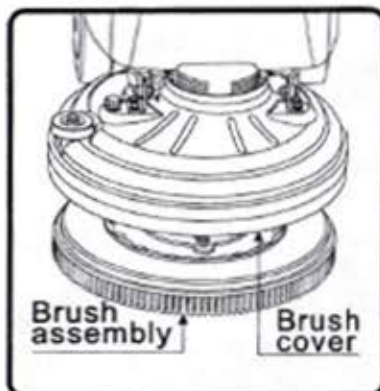

fig.5
4. Put the battery socket to the machine socket (fig.5).
1. Lift up the brush limit plate and push the brushes under the brush cover to keep proper distance between them. Then, move on the brush to make the brush holder under the center of brush cover. After that, put down the brush on the floor vertically (fig.5).